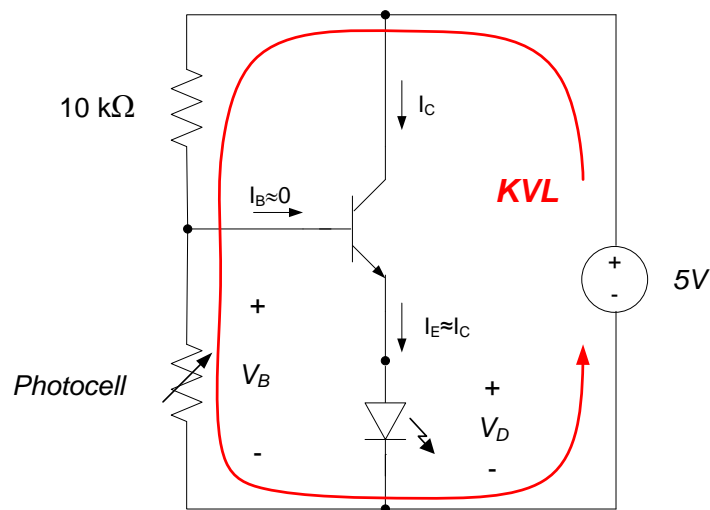

Figure 5. Circuit analysis to determine BJT base voltage.
Apply KVL around the outer loop of the circuit of Fig. 1 (as shown in Fig. 5) to determine the voltage V_B for photocell resistances of $5\text{k}\Omega$ and $20\text{k}\Omega$. You may assume that the current into the base of the BJT is negligible.
1. Construct the circuit shown in Fig. 1. The LED should not light under normal light levels. Using the scope instrument on your Analog Discovery (or a DMM), measure the base voltage of the BJT (V_B in Fig. 5) and the voltage difference across the diode (V_D in Fig. 5). Record these voltages in your lab notebook and compare them with your calculated values from the prelab.
2. Cover the photocell; the LED should light up. Using the scope instrument on your Analog Discovery (or a DMM), measure the base voltage of the BJT (V_B in Fig. 5) and the voltage difference across the diode (V_D in Fig. 5). Record these voltages in your lab notebook and compare them with your calculated values from the prelab.